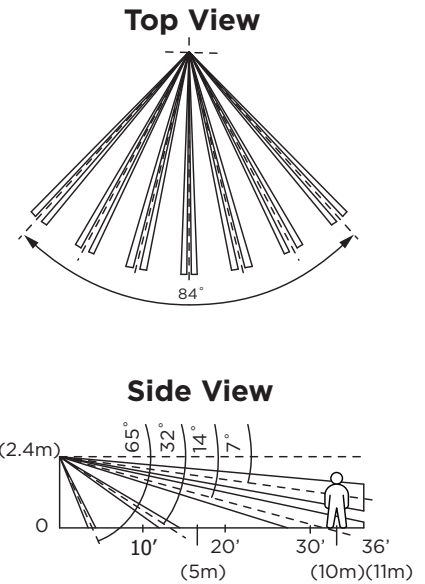

Figure 2: Detection Pattern
1. Remove the front cover. See Figure 2.
2. Press the tamper switch to send data to the receiver and determine if communication is confirmed or faulty. See Figure 2 for tamper switch location.